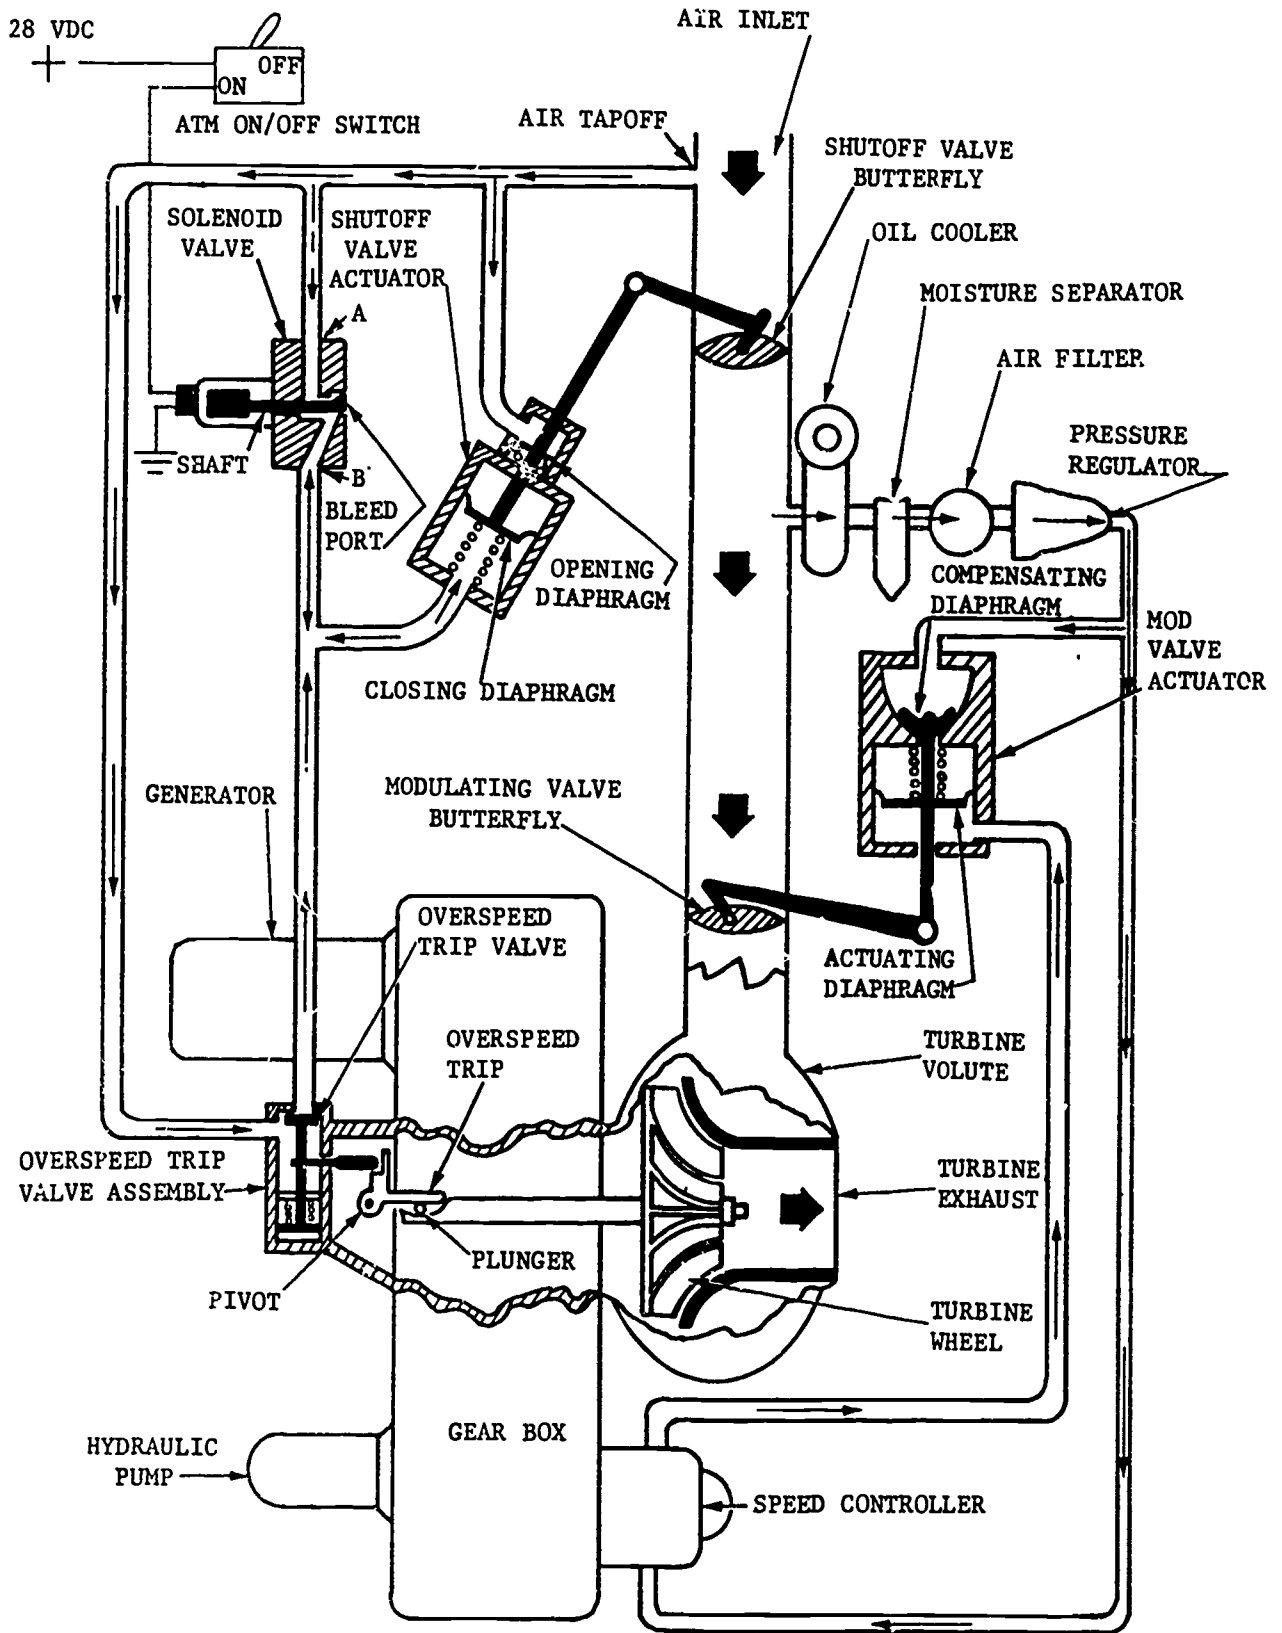

Figure 6.
The first of our discussion will be those components that control the air pressure to the ATM turbine wheel. The air that enters the ATM is directly controlled by the ATM shutoff valve butterfly. (Refer to figure 6.) When an air source is applied to the ATM air inlet, the flow is stopped due to the ATM shutoff valve butterfly being closed. This valve is spring-loaded to the close position. Just above the ATM shutoff valve butterfly, air is directed (by an air tapoff) to the opening diaphragm of the ATM shutoff valve actuator and the solenoid valve. The solenoid valve is electrically controlled by the ATM ON/OFF switch. This switch is located in the crew compartment of the aircraft. When the ATM ON/OFF switch is placed to the OFF position, there will be no electrical power applied to the solenoid valve. Without electrical power, the solenoid is deenergized. This action closes off the bleed port and opens the inlet port (A) of the solenoid valve. Now, air entering port A, passes through the deenergized solenoid valve to port B. This air is then directed to the closing diaphragm of the ATM shutoff valve actuator. The air pressure, along with the spring tension on the closing diaphragm, will keep the shutoff valve butterfly closed. Since no air pressure can reach the ATM turbine wheel, the ATM will not operate.